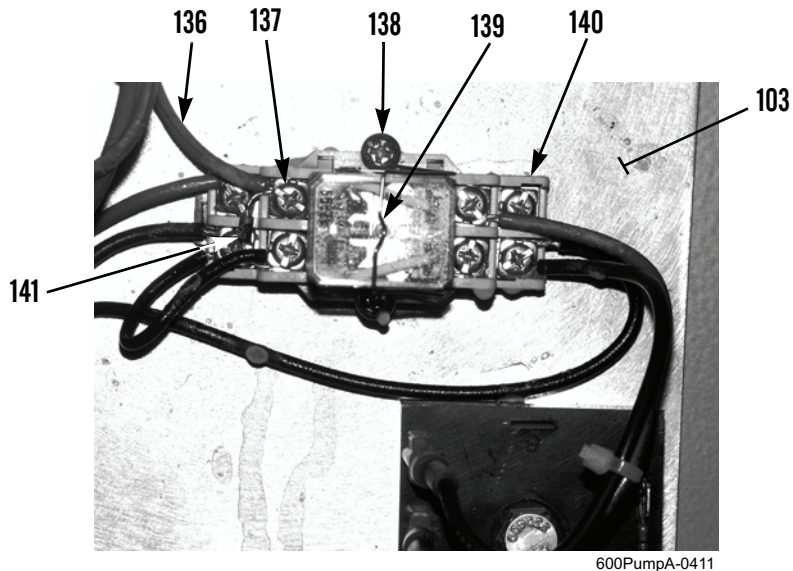

Figure 36. Power Relay.
1. Loosen six screws (Figure 36, Item 137) and remove six wires (Figure 36, Item 136), jumper wire (Figure 36, Item 139), and diode (Figure 36, Item 141) from power relay (Figure 36, Item 140).
2. Remove two screws (Figure 36, Item 138) and power relay (Figure 36, Item 140) from inside circuit board panel (Figure 36, Item 103).
1. Install power relay (Figure 36, Item 140) on inside circuit board panel (Figure 36, Item 103) with two screws (Figure 36, Item 138).
2. Install diode (Figure 36, Item 141), jumper wire (Figure 36, Item 139), and six wires (Figure 36, Item 136) on power relay (Figure 36, Item 140) and tighten six screws (Figure 36, Item 137).